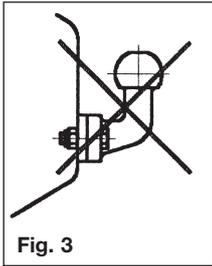

Fig. 3
1. In accordance with EC Directive 94/20, couplings of type A 50-1 cannot be used (see Fig 3); your warranty will be invalid if this type of towball is used.